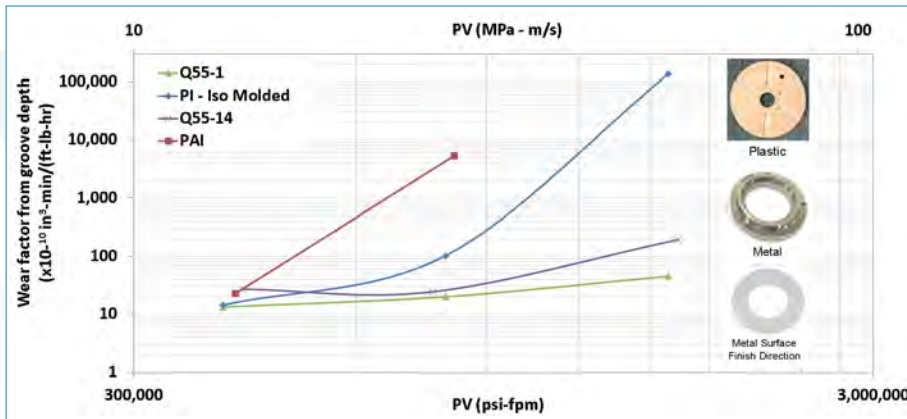

Figure 2 Comparison of lubricated wear performance of some engineering plastics
Freudenberg-NOK has developed lubricated and dry tribological test methods[2] to rate and compare materials while adhering to the above listed consideration. Figure 2 shows results of a set of lubricated tests on four different materials at multiple pressure-velocity (PV) combinations. The geometry of the sample, counter-surface and orientation of surface roughness are also shown in Figure 2. Recalling that geometry influences the lubrication regime under a given set of condi-